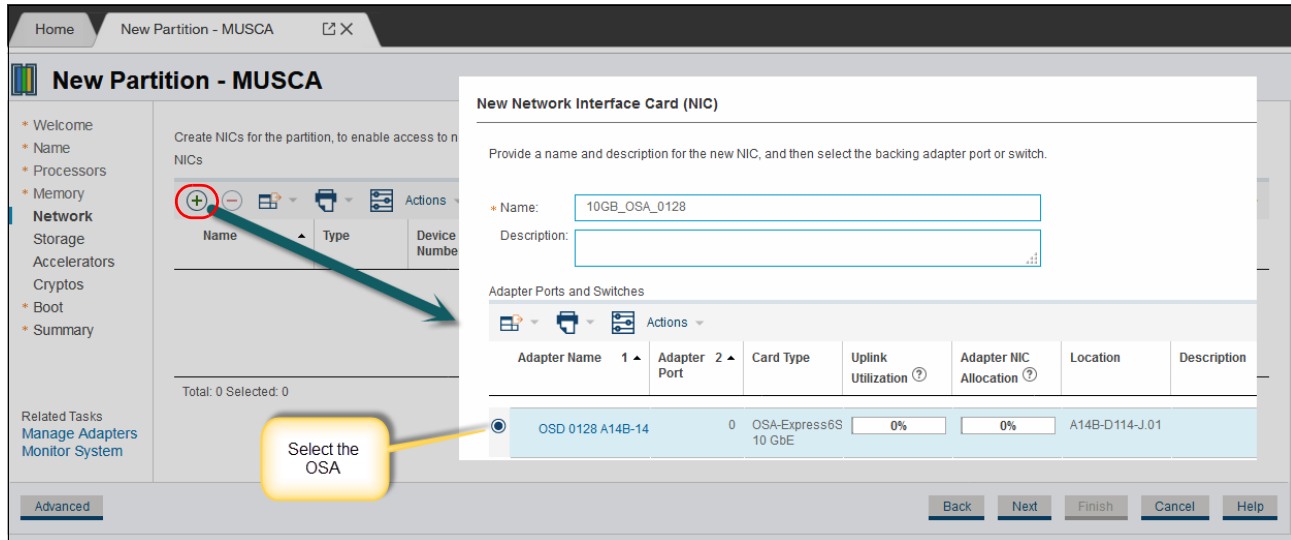

Figure 16-35 NIC selection
6. After the memory is selection, we click **Next** and start configuring adapters for our partition. Figure 16-35 on page 411 shows the Network Interface Card (NIC) selection window.